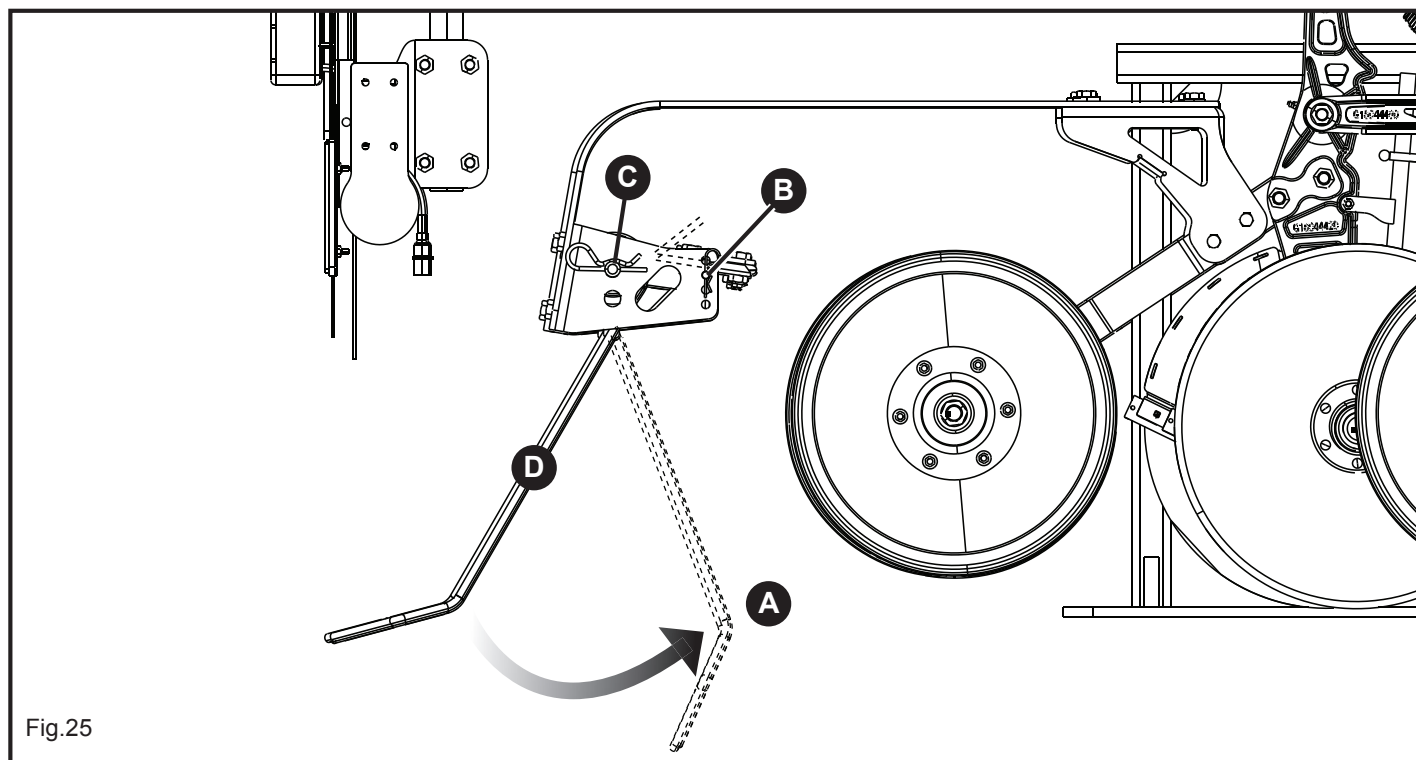

Fig.25
The working angle of the seed covering harrow can be changed by acting on the adjustment pin (B Fig.25)
The adjustment pin (B Fig.25) must always be below the seed covering spring (D), to allow forward rotation (A Fig.25) when the machine is closing.
The working pressure of the spring teeth of the seed covering harrow can be changed by moving the position of the pin (C Fig.25). The normal working position of the rear seed covering harrow is indicated in Fig.24.
To release the rotation, position the pins (B Fig.25) underneath the seed covering springs (D Fig.25), to allow the springs to perform the forward rotation movement (A Fig.25).